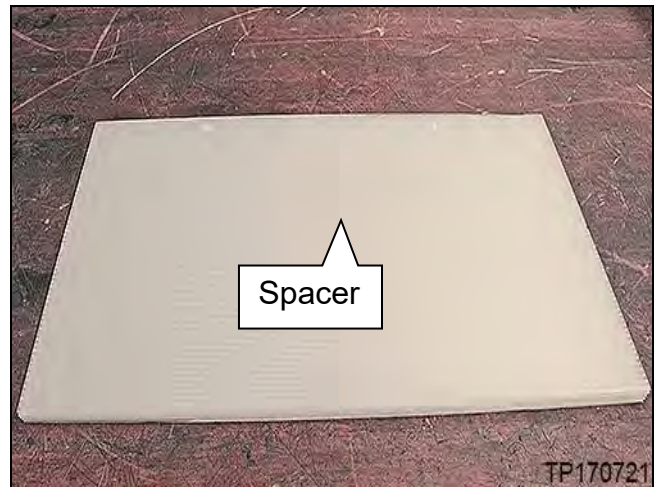
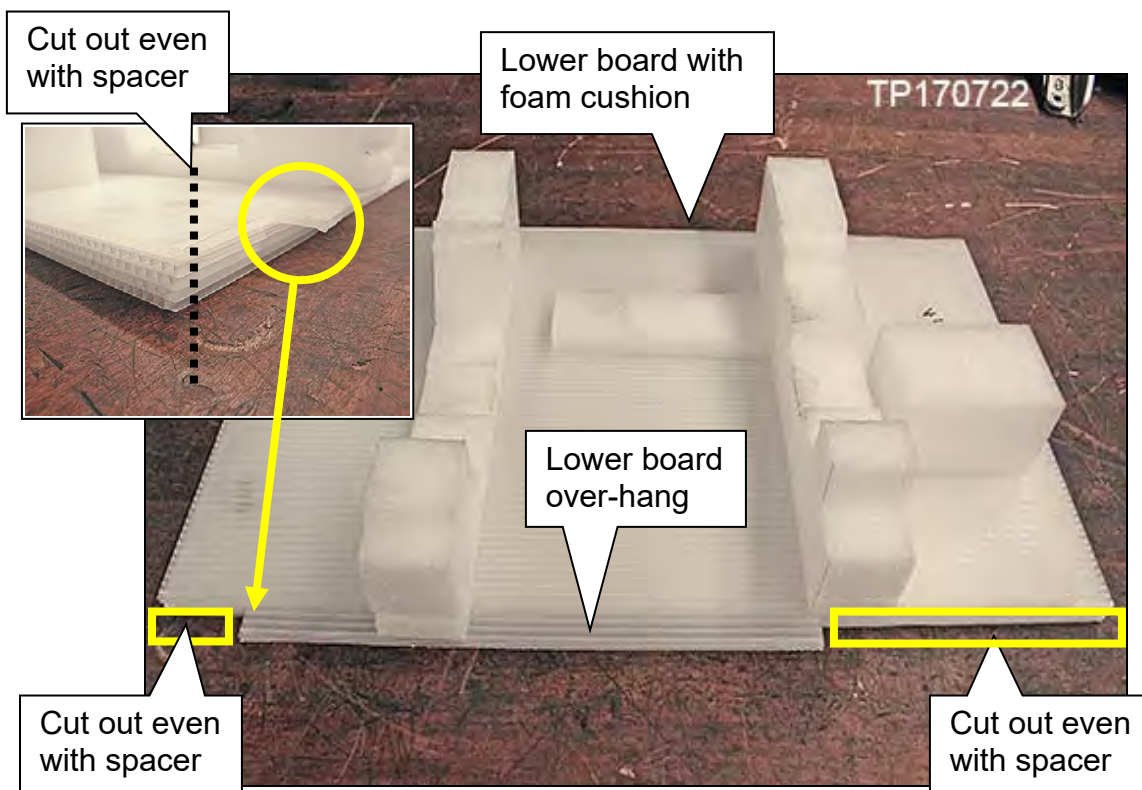

Figure 6N
Figure 7N
6. Take the lower board with foam cushion (lower board) out of the shipping box (Shown in Figure 7N).
**IMPORTANT:** Step 7 is for kits that have a separate spacer (Figure 6N). In later kits this spacer will be part of the Lower board and step 7 will not be used.
7. Take the spacer (Figure 6N) out of the shipping box and place on the work bench where the sub-assembly will be installed, and then place the lower board on top of the spacer as shown in Figure 7N.